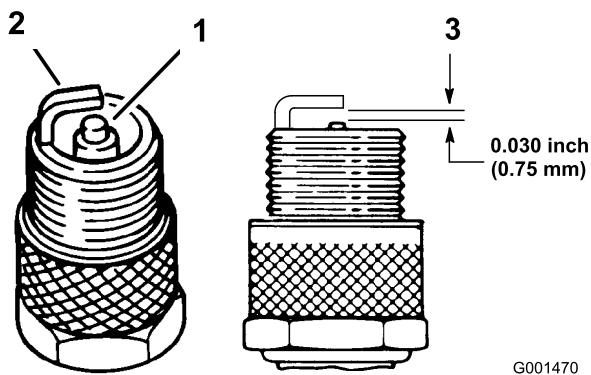

Figure 40
1. Look at the center of the spark plug (Figure 40). If you see light brown or gray on the insulator, the engine is operating properly. A black coating on the insulator usually means that the air cleaner is dirty.
3. Check the gap between the center and side electrodes (Figure 40). Bend the side electrode (Figure 40) if the gap is not correct.
3. Connect the wire to the spark plug (Figure 40).